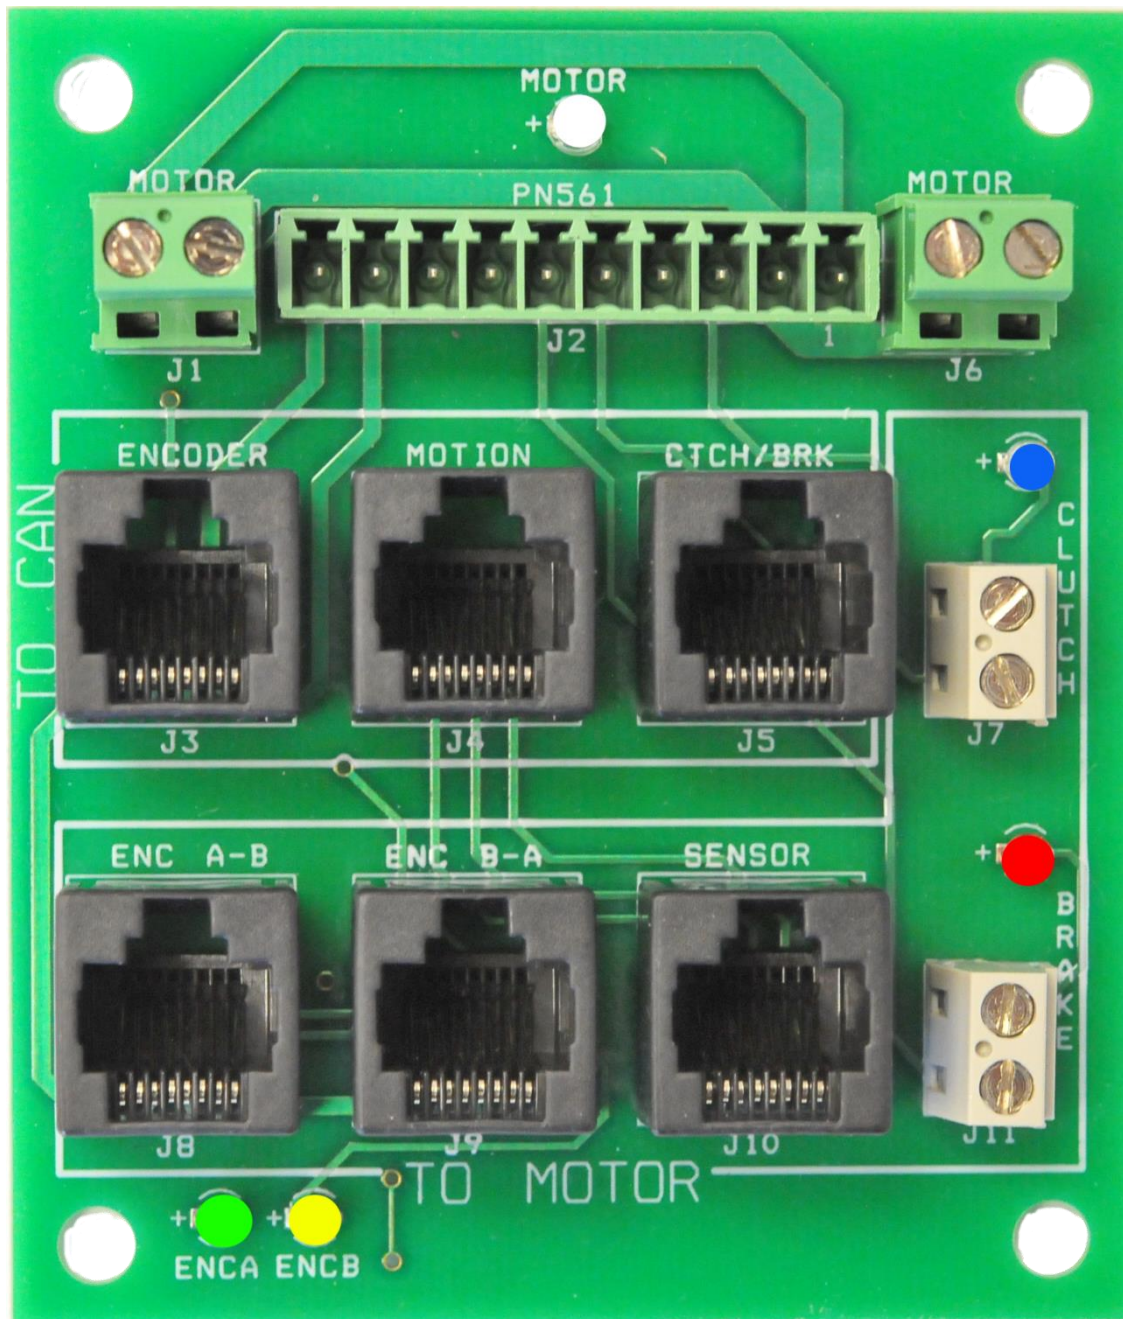

Figure 1 - Break Out Board(BOB) + LED's
- Check the red & black wires at the motor BOB (**figure 1**)
- If the BOB board has LED's (**figure 1**)